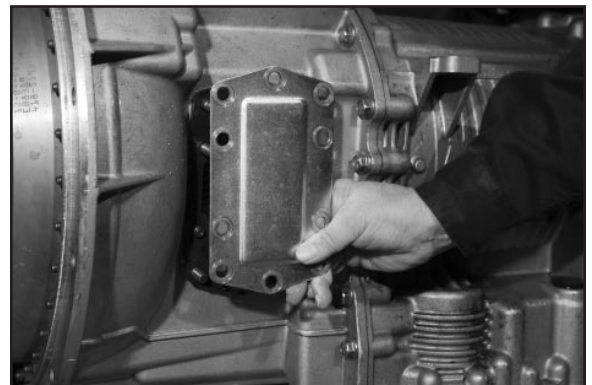

Fig. 6
- Remove the P.T.O. aperture plate with a 15mm socket (Fig. 6).